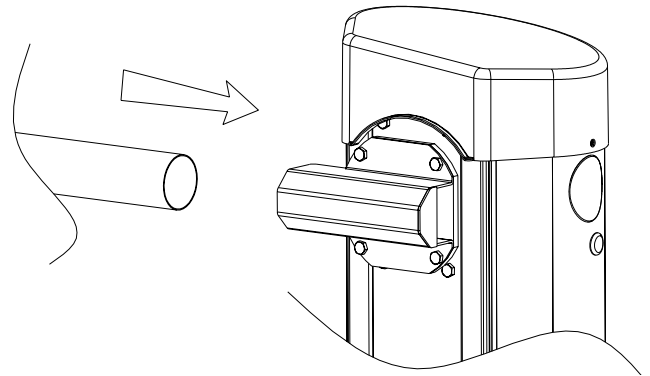

Fig. 6
- Slide the barrier arm into the bracket from the opposite side of it's lid, slide it along until it jams into place and screw in tightly the M8 screws that you had left loosely tightened beforehand (Fig.6).